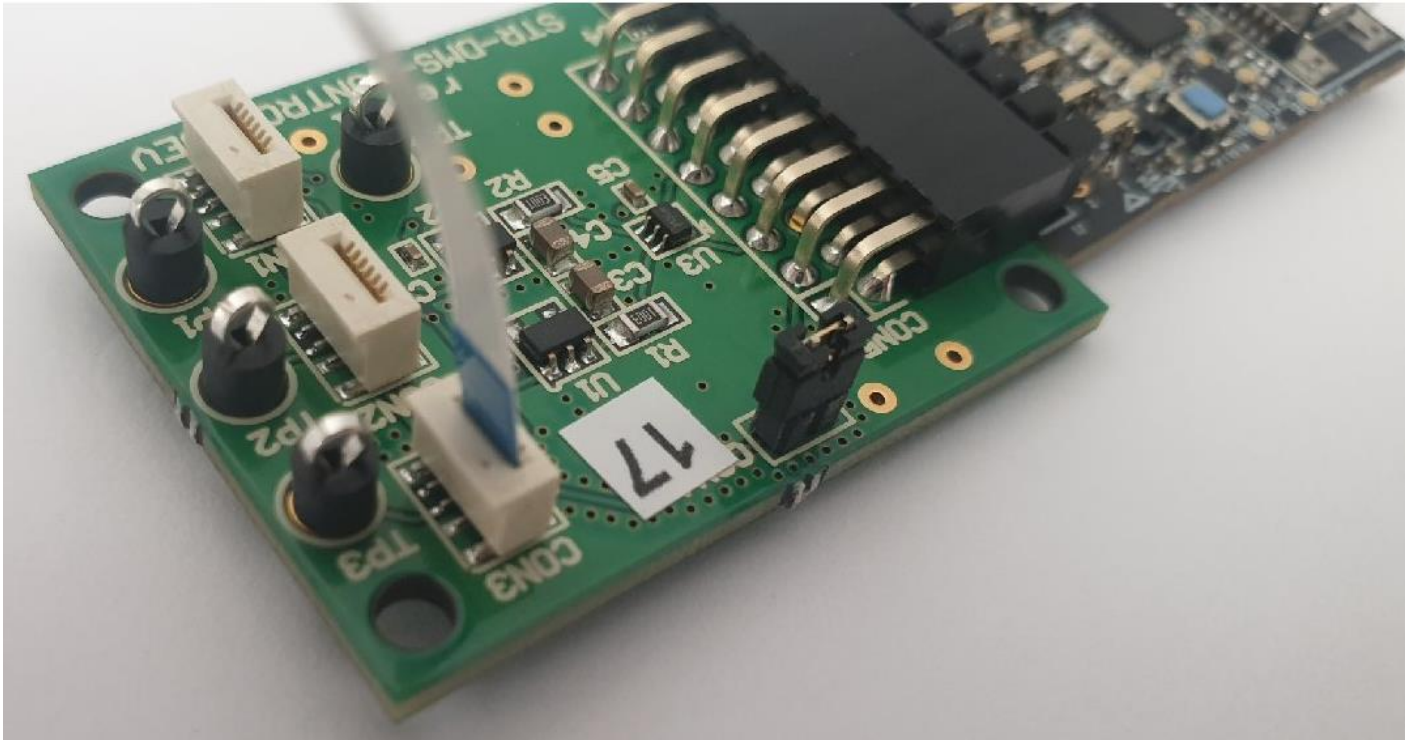

Fig. 4: connection of the 6-pin FPC cable from GazeT LED driver module (STR-DMS-NCV7694-GEVB) into Controlboard (STR-DMS-CONTROL-GEVB)
2. Connect the other part of 6-pin FPC cable into controlboard STR-DMS-CONTROL-GEVB as shown in Fig.4. Blue part of the FPC cable must go outside of the control board. User can control up to three GazeT IR LED driver modules over 6-pin FPC cables. Each module will have the same V_{out} DCDC and I_{LED} current and PWM flash signal.